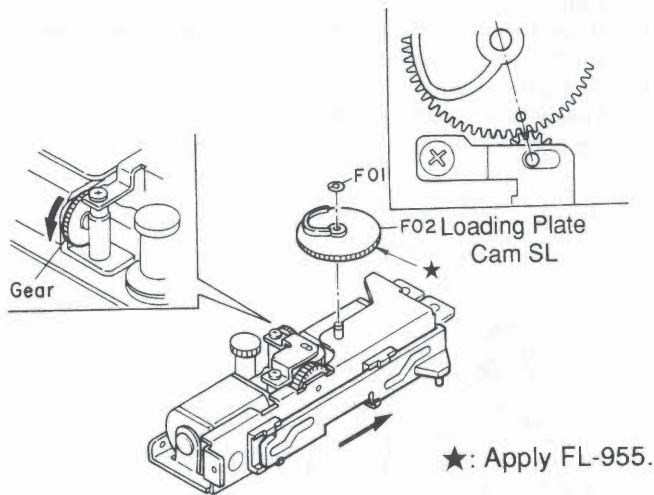

Fig. 2.15.1
Refer to Fig. 2.15.1.
Refer to Figs. 2.15.1 and 2.15.2.
- (1) Turn the Emergency Gear in the direction of the arrow as shown in Fig. 2.15.1 until it stops.
- (2) Assemble F02 (Loading Plate Cam SL) so that the center of the Loading Plate Cam SL, mark on the Loading Plate Cam SL, and the center of the shaft are aligned on one line as shown in Fig. 2.15.1.